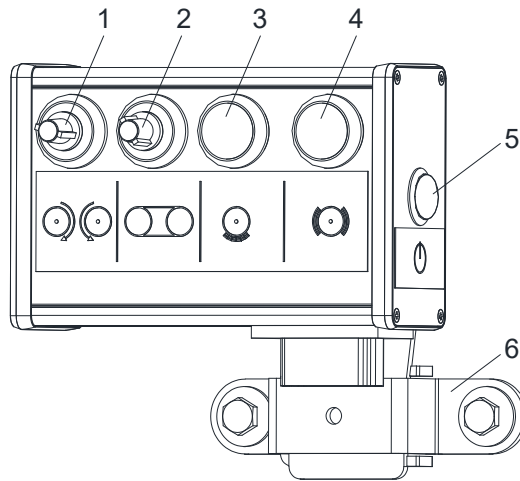

Fig. 29 PotiPro Compact operating device (hybrid)
- PotiPro Compact operating device (hybrid) (Fig. 29)
When the disc spreader is not hitched to a towing vehicle, the operating device is attached to a holder at the front of the hopper. A holder (Fig. 29/6) for the towing vehicle included in the scope of delivery enables the operating device to be attached to the towing vehicle. The disc spreader can then be operated from the towing vehicle.